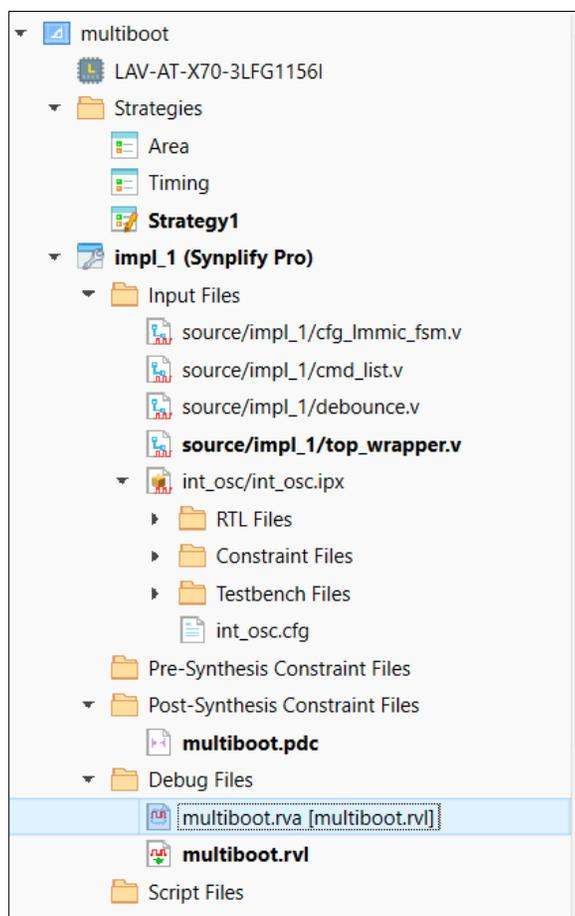

Figure 7.7. multiboot.rva File
- c. Launch and run Reveal Analyzer by double-clicking the **multiboot.rva** file (Figure 7.7).